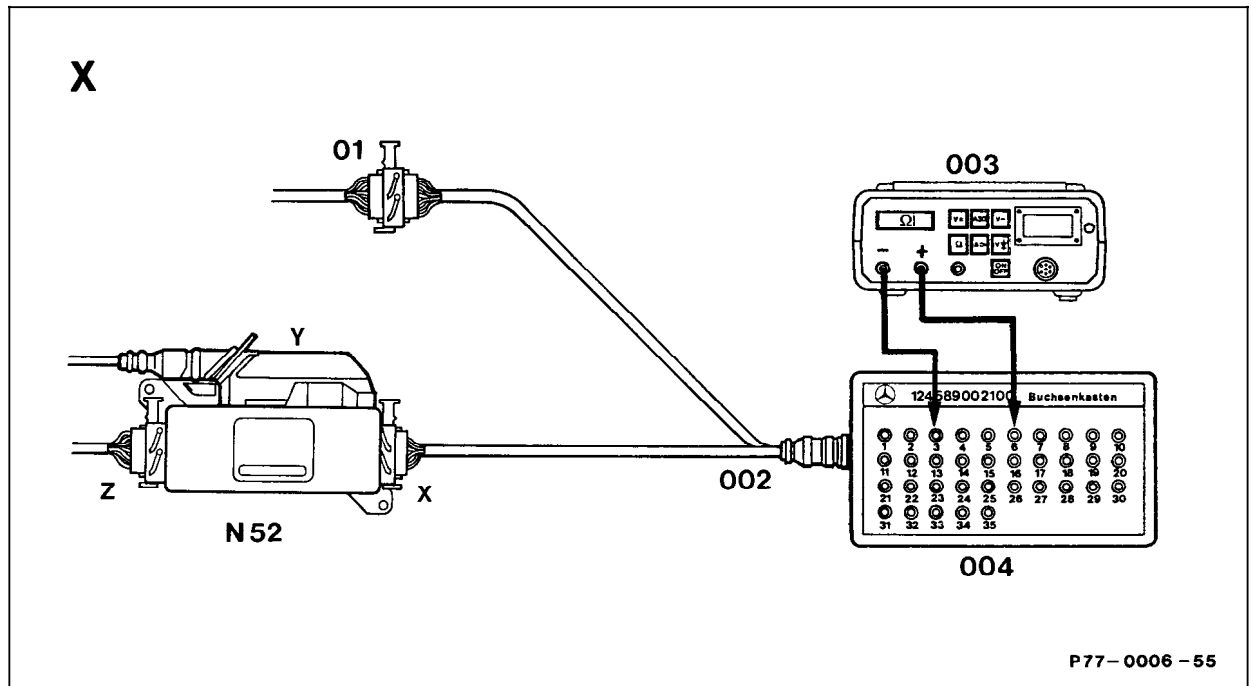

Figure 4
- X  Cp-onnect socket box according to connection diagram "Socket Box to connector X" (22, Fig. 4.)